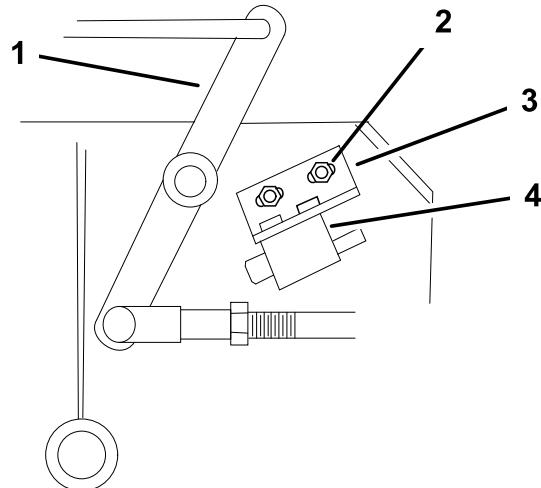

Figure 53
4. If needed, adjust the blade safety switch by loosening the bolts holding the switch bracket (Figure 53).
Note: Make sure the bellcrank **does not** touch the switch body or damage to the switch could occur (Figure 53).